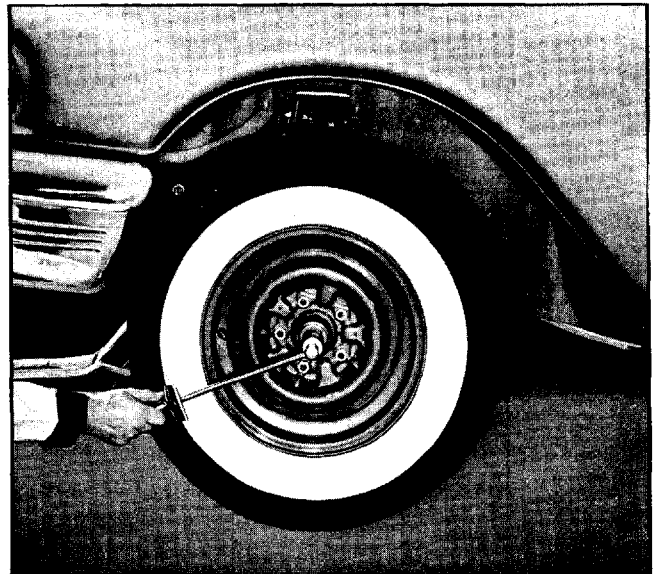

Fig. 3-9 Adjusting Wheel Bearing Using Torque Wrench
- b. Back off nut and retighten to 45-50 lb. in. (Fig. 3-9). (This should be measured by using Wrench KMO-652 with Adapter KMO-653 as when measuring rear axle pinion bearing preload).